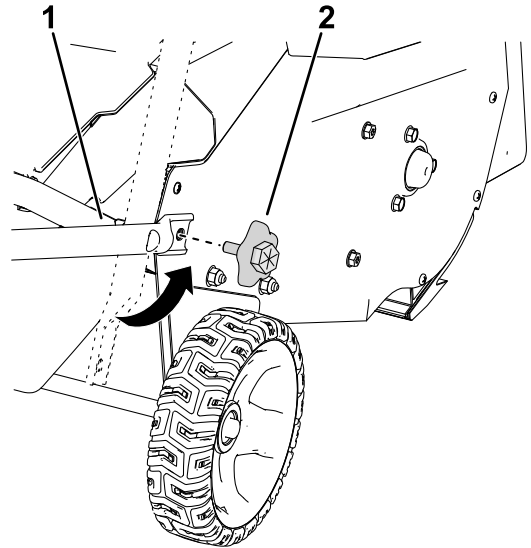

Figure 6
5. Move the lower handle into place and install the lower handle knobs as shown in Figure 6.